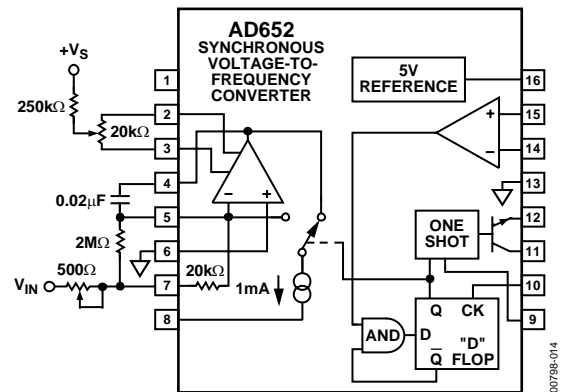
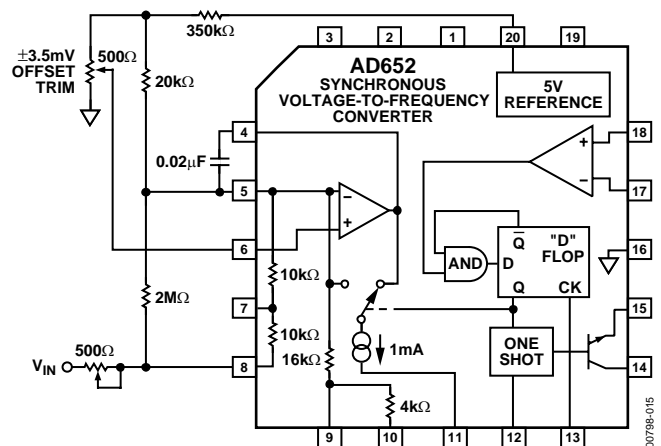

Figure 14. Cerdip Gain and Offset Trim
Figure 15. PLCC Gain and Offset Trim
The gain error of the AD652 is laser trimmed to within $\pm 0.5\%$. If higher accuracy is required, the internal 20 k Ω resistor must be shunted with a 2 M Ω resistor to produce a parallel equivalent that is 1% lower in value than the nominal 20 k Ω . Full-scale adjustment is then accomplished using a 500 Ω series trimmer. See Figure 14 and Figure 15. When negative input voltages are used, this 500 Ω trimmer is tied to ground and Pin 6 is the input pin.
The offset of the op amp may be trimmed to zero with the trim scheme shown in Figure 14 for the Cerdip package and Figure 15 for the PLCC package. One way of trimming the offset is by grounding Pin 7 (8) of the Cerdip (PLCC) device and observing the waveform at Pin 4. If the offset voltage of the op amp is positive, the integrator has saturated and the voltage is at the positive rail. If the offset voltage is negative, there is a small effective input current that causes the AD652 to oscillate; a sawtooth waveform is observed at Pin 4. The potentiometer should be adjusted until the downward slope of this sawtooth becomes very slow, down to a frequency of 1 Hz or less. In an analog-to-digital conversion application, an easier way to trim the offset is to apply a small input voltage, such as 0.01% of the full-scale voltage, and adjust the potentiometer until the correct digital output is reached.